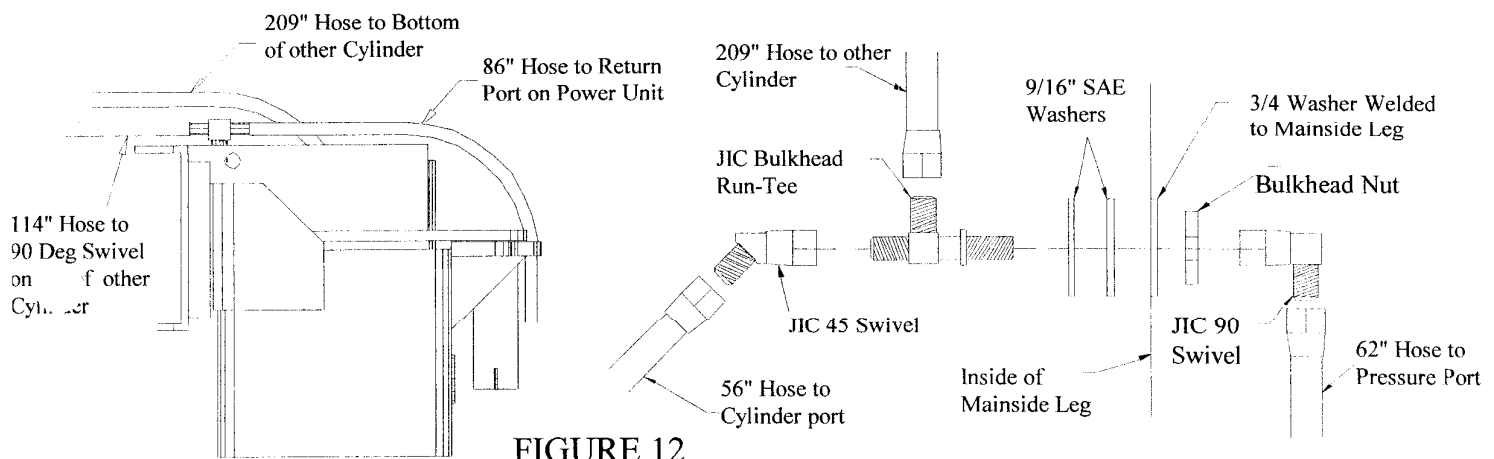

FIGURE 12
25. On the back of the mainside leg there are two holes near the top. On the bottom hole, attach the hydraulic fittings as shown in Figure 12. Two 9/16" SAE washers are used as spacers in the bulkhead fitting installation.
26. Figure 12 shows the hose installation. The 114" hose runs between the fittings on the cylinder tops and the hose sits on the overhead beam. Make sure to run the hoses through hose guides on top of the overhead beam. The 86" hose runs from the top of the mainside cylinder, through the slot on the back of the cylinder mount weldment through the hose guides on the leg back, to the return port (the return port is on the left and the pressure port is on the right) on the power unit. Install the 62" hose between the 90-deg swivel fitting and the pressure port on the power unit. Run the hose through the hose guides on the leg back. Install the 56" hose between the 45-deg swivel and the mainside cylinder port. Do not tighten the cylinder end of the hose fitting. Install the 209" hose between the top of the bulkhead fitting and the offside cylinder port. Do not tighten the cylinder end of the hose fitting. Thread the hose through the cylinder mount weldments and the hose guides on the overhead beam. Secure the 209" hose to the offside cylinder approximately 18" below the cylinder mount weldment using the supplied tie wrap.